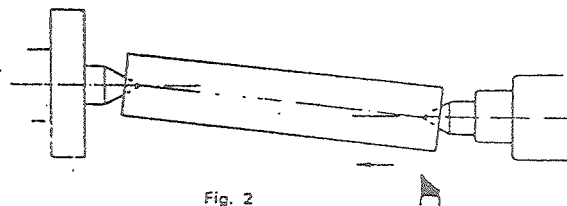

Fig. 2
(2) The method shown in fig. 2 is by off-setting the tailstock centre. The drawback is that the centre points are not on the axis of the work, so that the centres are subjected to uneven wear and strain. Thus the method is limited to slow tapers on long work.